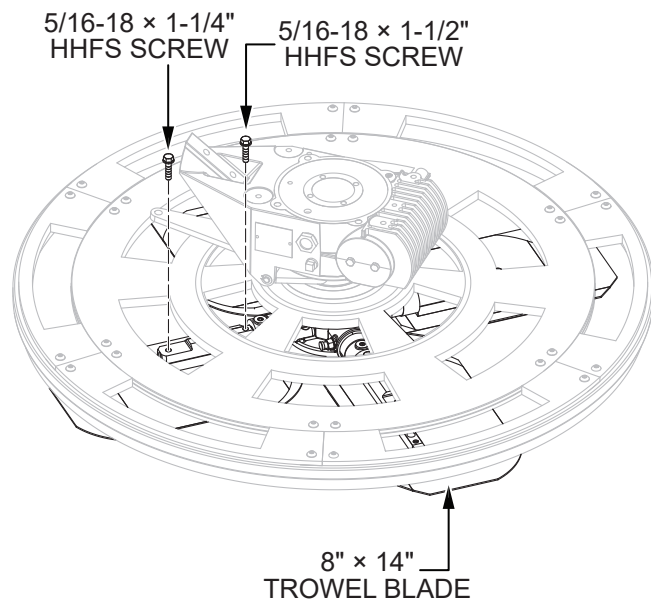

Figure 17. 14-Inch Trowel Blade Removal
1. Remove and retain the four 5/16-18 × 1-1/4" HHFS screws and four 5/16-18 × 1-1/2" HHFS screws securing the 8" × 14" trowel blades to the spider assembly (Figure 17).